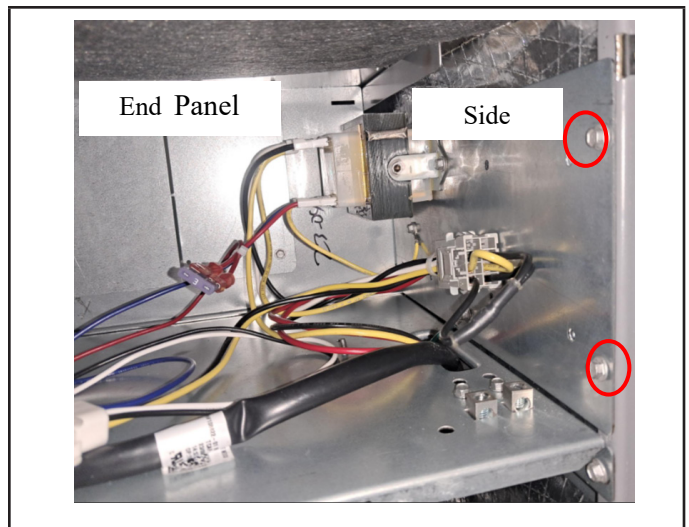

FIGURE 20. Electrical Connections (Upflow Configuration)
To avoid the possibility of moisture damage to the control in some right-hand discharge configurations, the control panel can be relocated to the end panel as shown in FIGURE 20.
- 1 - Remove the two screws that secure the control panel to the cabinet. See FIGURE 20. Slide panel out.